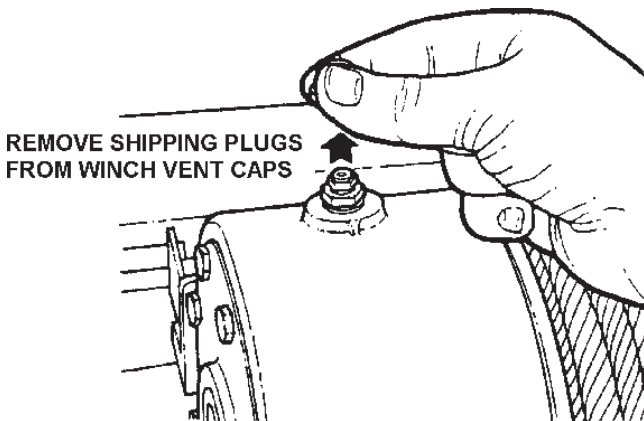

FIGURE 3.5
3.7 Before operating your Wrecker, remove the rubber shipping plug from the winch vent cap. See Figure 3.5.